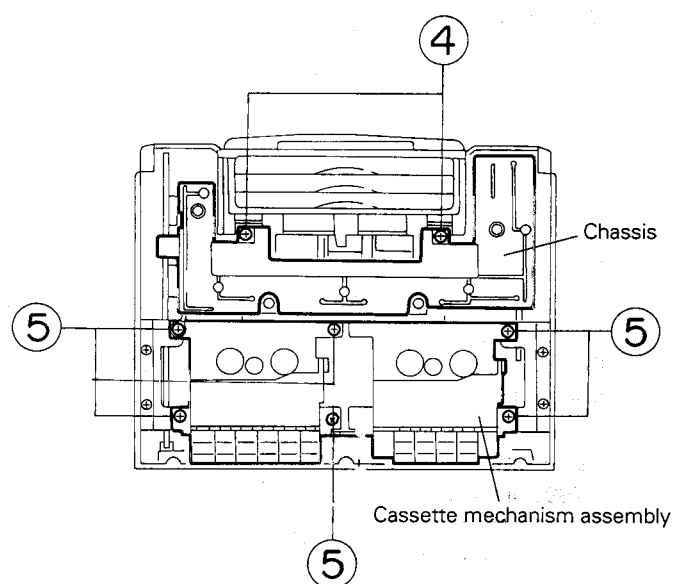

Fig. 5-6
■ Cassette mechanism assembly (Refer to Fig. 5-6, 5-7.)
3. Remove two screws ④ retaining the chassis to remove it.
4. Remove six screws ⑤ retaining the cassette mechanism assembly.